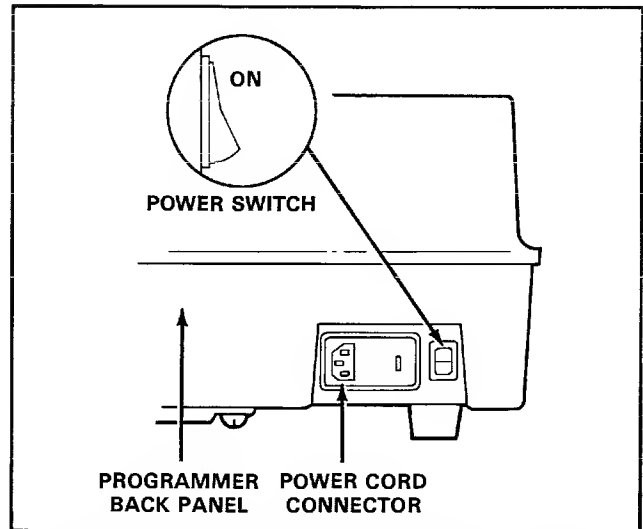

Figure 2-5. Programmer Power Switch Location
3. Press the power switch to the ON position; figure 2-5 shows the power switch location and indicates the ON position.